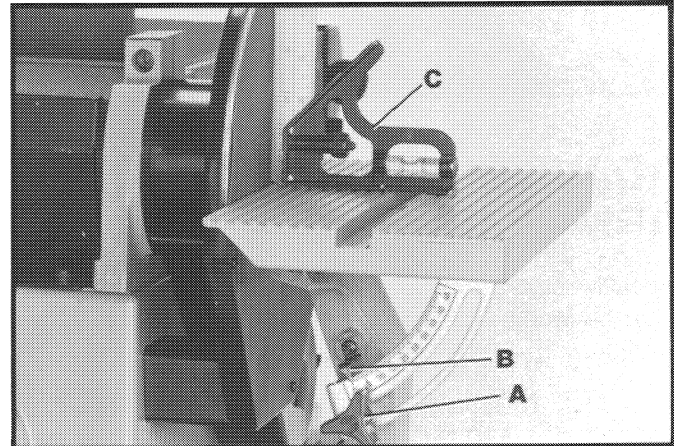

Fig. 28
2. Using a combination square (C) Fig. 28, place one end of the square on the table with the other end against the sanding disc as shown in Fig. 28, and check to see if the table is 90 degrees to the disc.
3. If the table surface is not 90 degrees to the disc, loosen table lock knob (A) Fig. 28, adjust table square with disc and tighten lock knob (A).
4. Adjust pointer (B) Fig. 28, to the "0" degree mark on the angle scale.